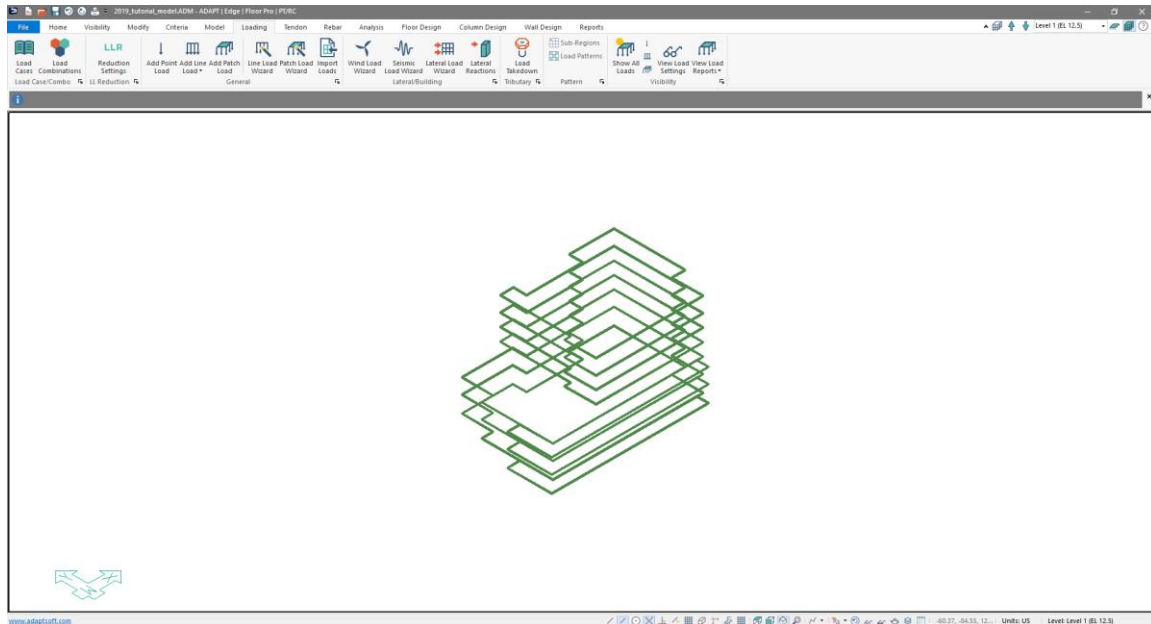

Figure 7-6
- Click on the *Top-Front-Right View*  icon in the **Bottom Quick Access Toolbar**. This will bring you to the view of the model shown in **FIGURE 7-6**.